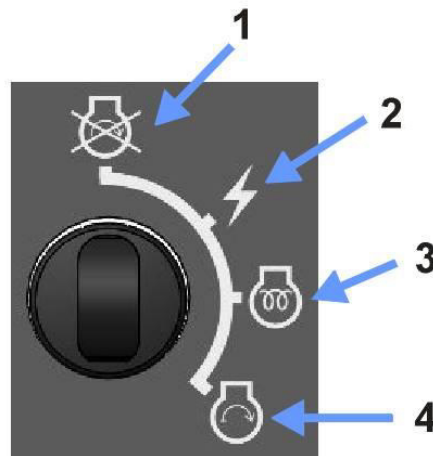

Figure 4.44 - Crank Position
8. Turn the key further clockwise to the Crank position item 4 Figure 4.44 and hold it in this position until the engine starts. A time-delay of 7 seconds will be implemented before the engine is started. During this time, the machine's siren will sound to indicate that the engine is going to start.